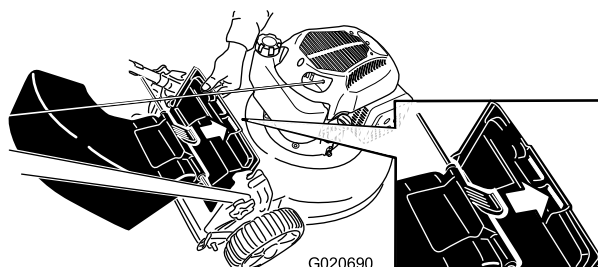

Figure 21
3. Insert the tab on the rear-discharge deflector into the right-hand slot in the rear deflector (Figure 21).